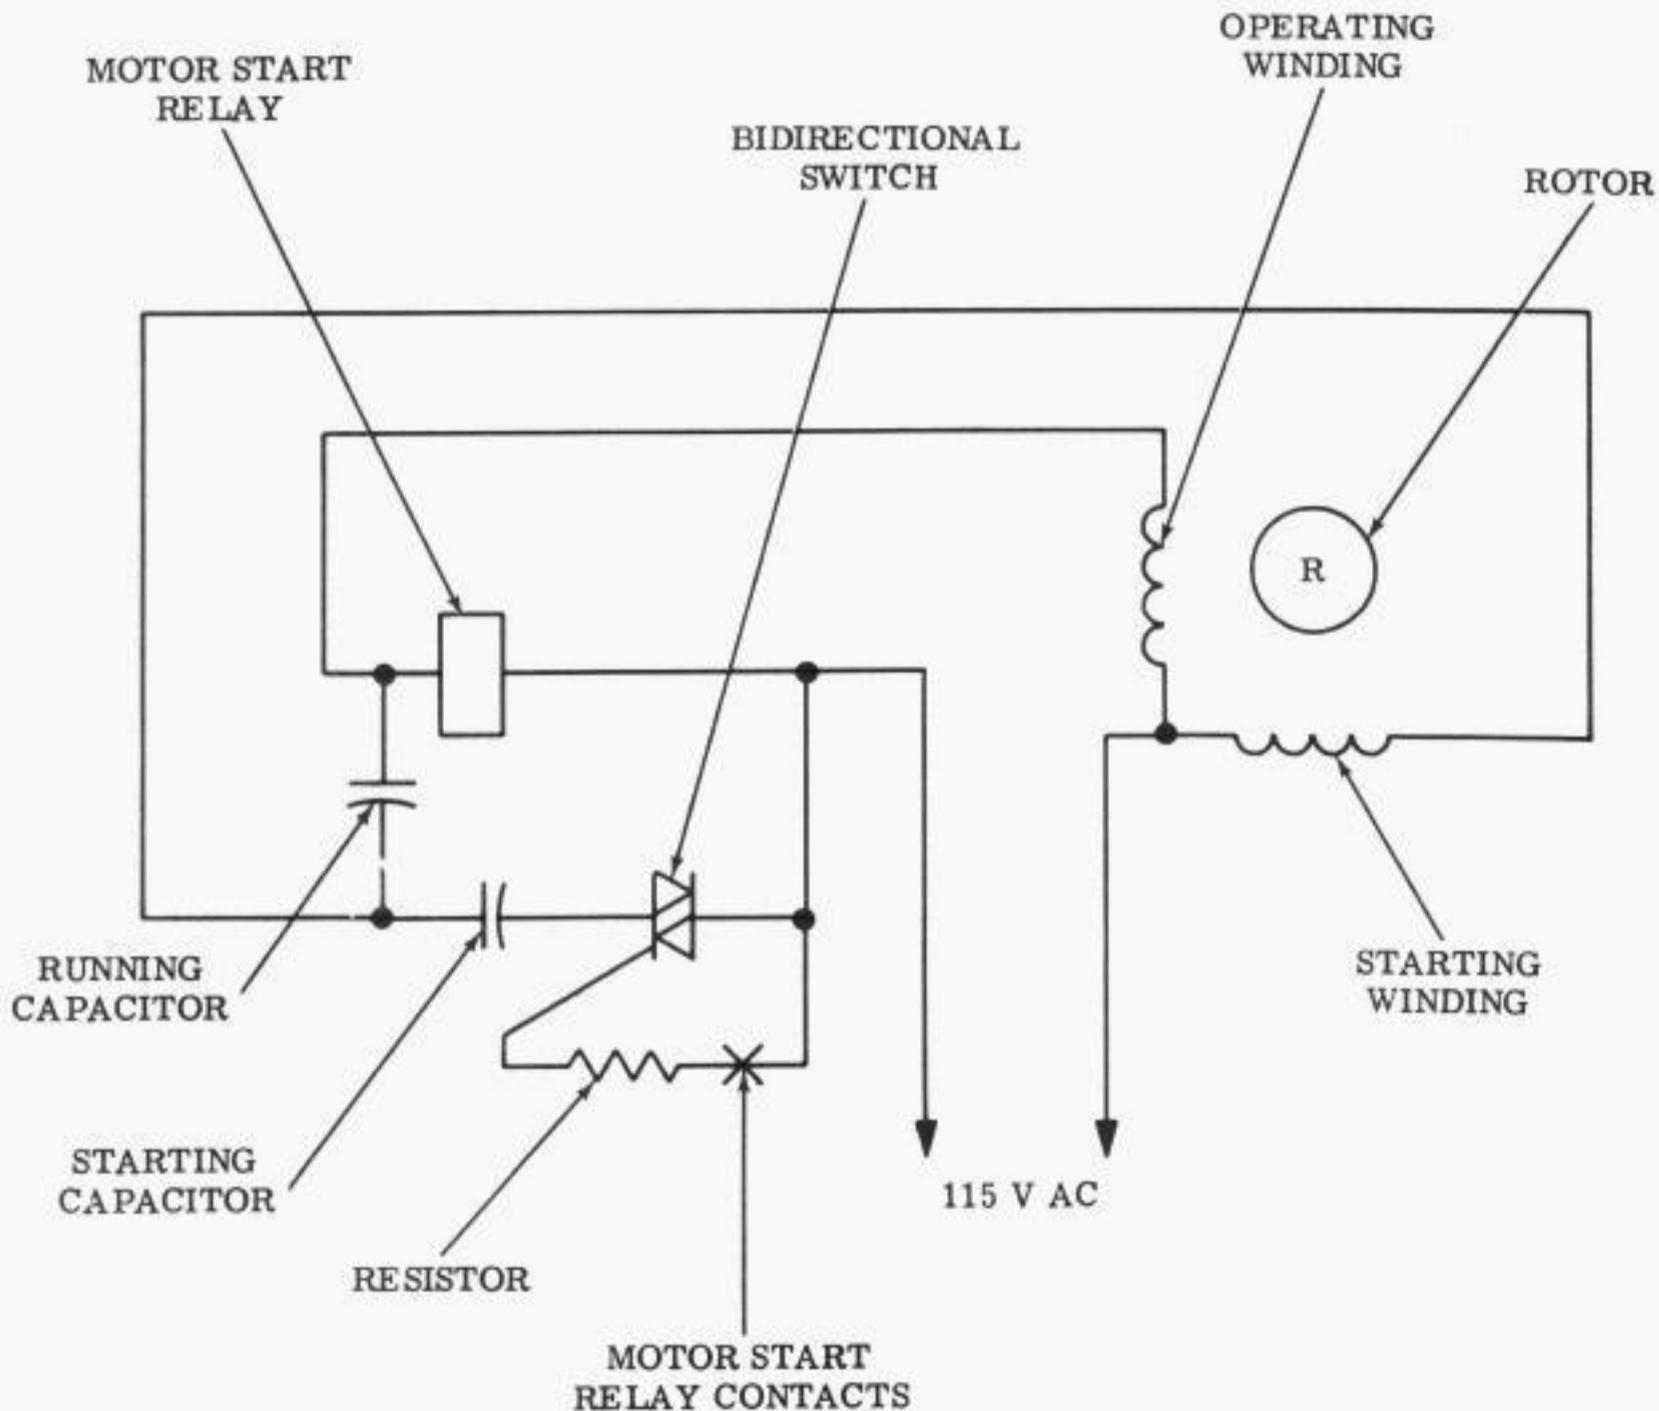

Figure 6 - Typical Synchronous Motor Unit Schematic Diagram With Bidirectional Switch
3.05 The following description of operation applies to synchronous motors with a bidirectional switch (Figure 6).